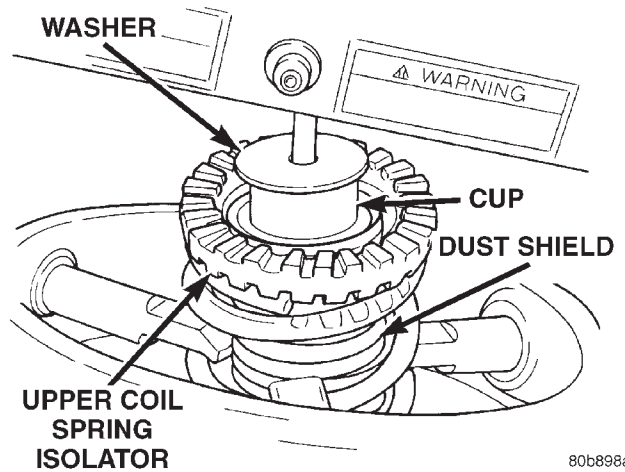

Fig. 46 Upper Coil Spring Isolator, Washer And Dust Boot
(5) Remove the upper shock rod bushing retainer washer from the shock rod.
(6) Remove the upper shock mount and the rod isolator bushings as an assembly from the rod of the shock absorber.
(7) Remove the upper coil spring isolator from the top of the coil spring (Fig. 46).
(8) Remove the lower shock rod bushing washer from the top of the dust boot and shock absorber rod (Fig. 46).
(9) Remove the dust shield and cup as an assembly from the shock absorber rod by pulling both straight up and off the shock rod (Fig. 46).
(10) Remove the clamp from the bottom of the coil spring and remove the shock absorber, lower spring isolator, jounce bumper, and collar out through the bottom of the coil spring.
(12) Install the upper spring isolator on the top of the coil spring. The bottom of the isolator is contoured to fit around the inside diameter of the coil spring (Fig. 46).